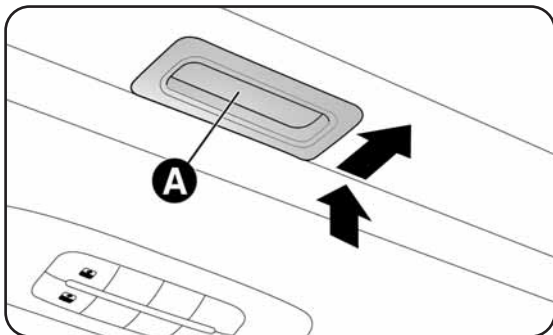

fig. 54
- press button A-fig. 54 in the closed position;